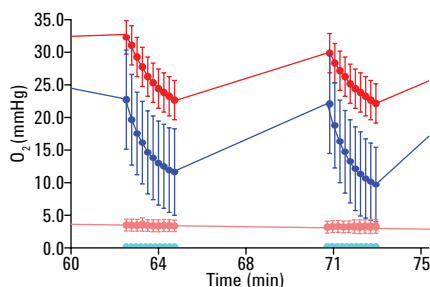

Figure 12. Blue trace (50k cells/well) shows nonlinear reduction in O_2 levels during measurement period, red trace is linear (25k cells/well).
- b. Check experimental group wells for a linear reduction in oxygen (Figure 12).